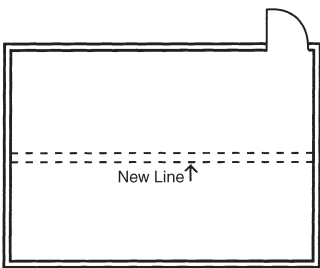

Fig. 33 - Adjust center line
- It may be necessary to adjust the center line to avoid small border pieces at side walls. To do this, measure the distance between the center line and the side wall. Divide the measurement by the plank width (4 1/2"). If the remainder is less than half a plank width, adjust the center line one half the width of a plank in either direction (Fig. 33).